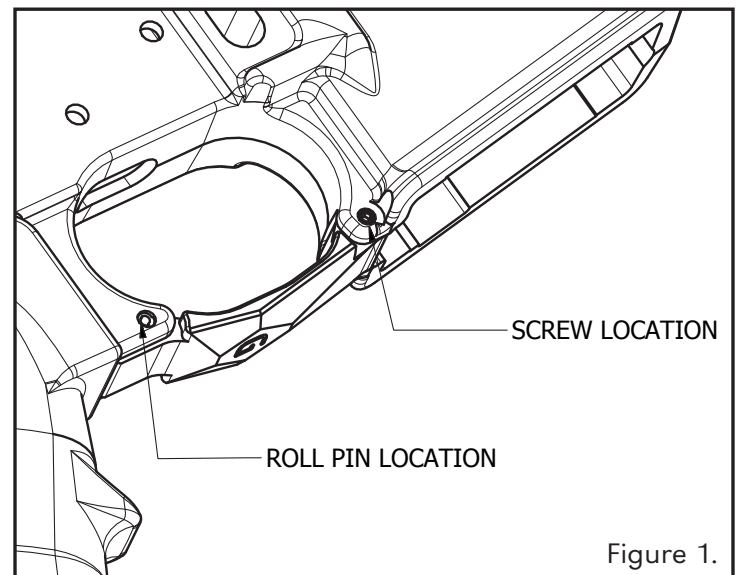

Figure 1.
1. Insert the trigger guard into the lower as shown in Figure 1. With the holes in the guard and lower lined up lightly tap the roll pin through until flush. A light oil on the hole might assist in the assembly.